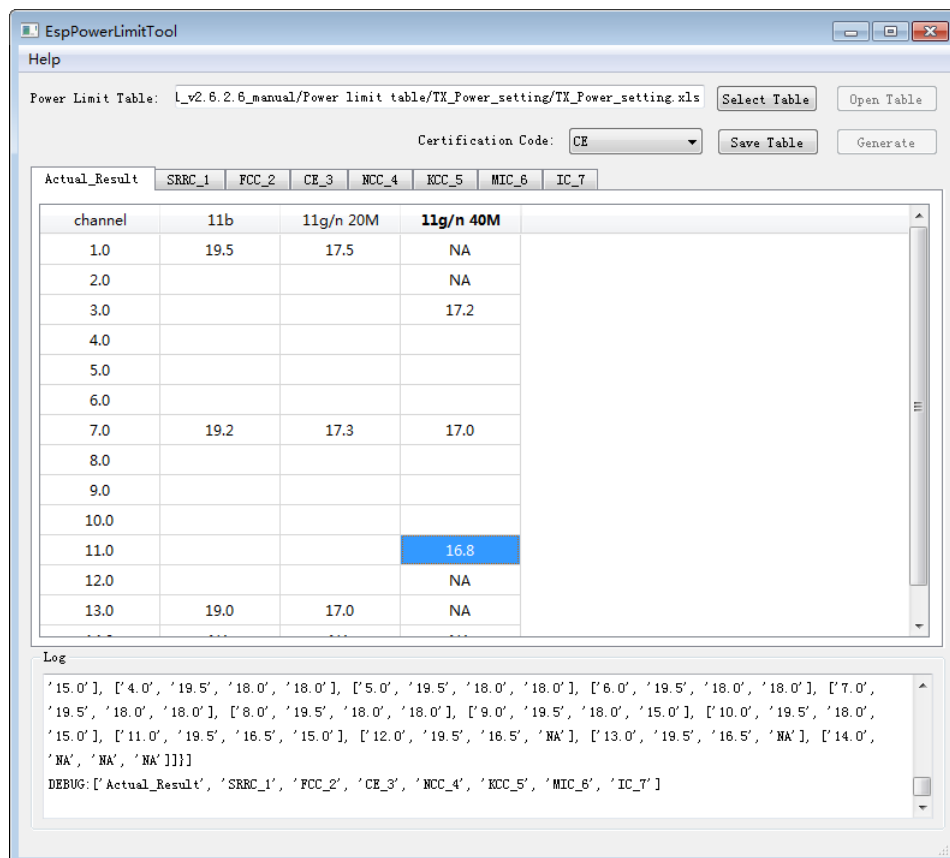

Figure 1-7. Filling in Power Tables
- Tested under the 11n-40M mode at MSC0, the power values of the three channels are 17.2 dBm, 17 dBm, and 16.8 dBm, as shown in Figure 1-7.